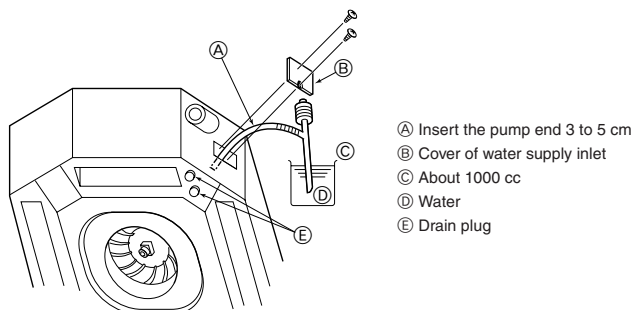

Fig. 8-5
8.4. Check of drainage (Fig. 8-5)